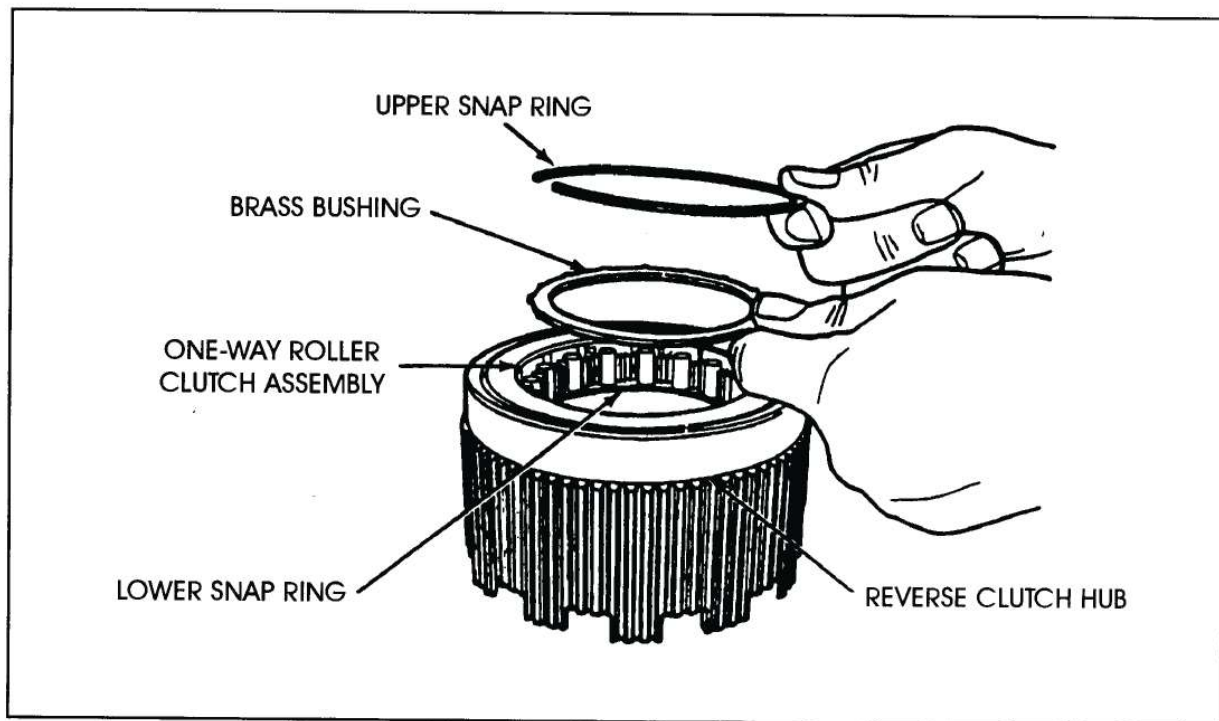

Figure 35
- (1) Remove the upper snap ring, brass bushing, roller clutch assembly, and the lower snap ring, as shown in Figure 35. **Discard all parts removed!**